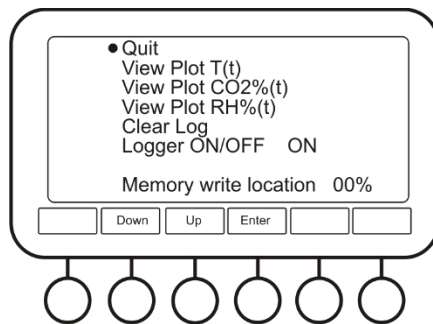

Fig. 11. Data Logger
- 4.9.5. **Data Logger** (fig. 11). Data logger features following options: View Plot T(t), View Plot CO₂%(t), View Plot RH%(t), Clear log, Logger on/off.